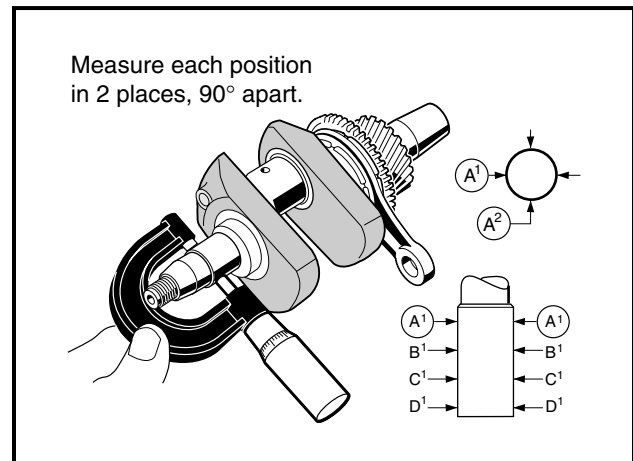

Figure 3-76 Measure Crankshaft Journals
2. Use a micrometer to measure both main journals at several points along their lengths (Figure 3-76, Page 3-36).